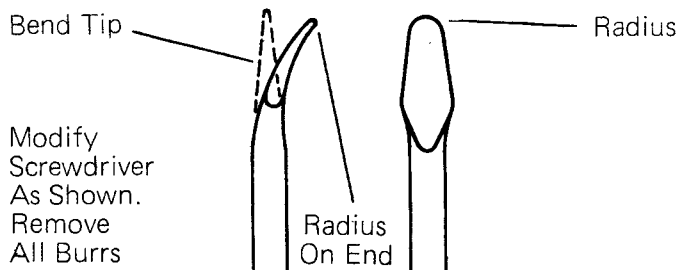

Figure 6
- 17 The dust seal, back-up washer, quad seal, and seal will come off with retainer. Use a seal removal tool, like the one shown in Fig. 6 to remove the dust seal. Use care to avoid damage to the retainer dust seal pocket. Do not use a hammer.